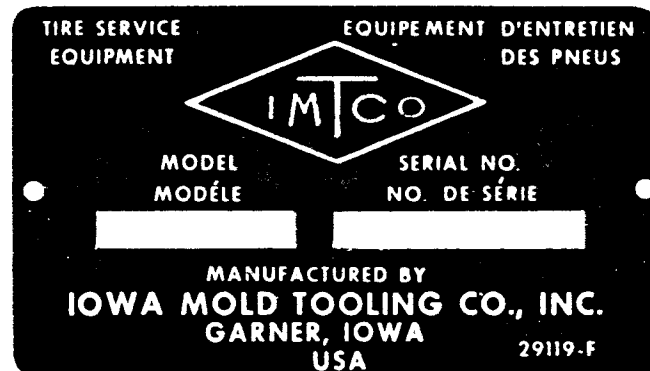

Figure B-1. Identification Placard
Every Tirehand has an identification placard (Figure B-1) fastened to the unit between the clamping arms. When ordering parts, communicating warranty information or referring to the unit in correspondence, always include the assigned serial and model numbers. All inquiries should be addressed to Iowa Mold Tooling Co., Inc.; 500 Highway 18 West; Garner, Iowa; 50438 or telephone (515) 923-3711.